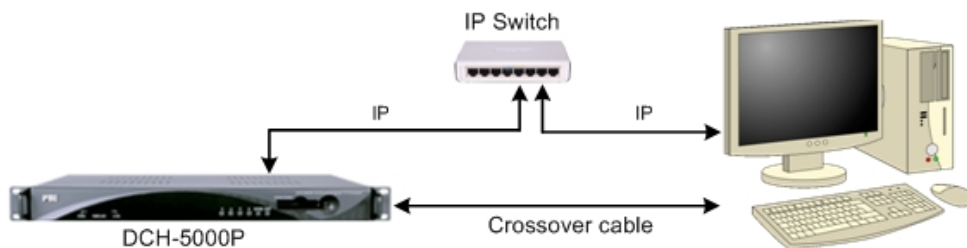

Figure 1: IP Connection Diagram
1. Turn on the equipment until the booting is completed. You can check the IP address from the LCD screen on front panel, the default IP address is [10.10.70.48](http://10.10.70.48). Please make sure that the equipment and your PC are in the same IP network, refer to Figure 1.